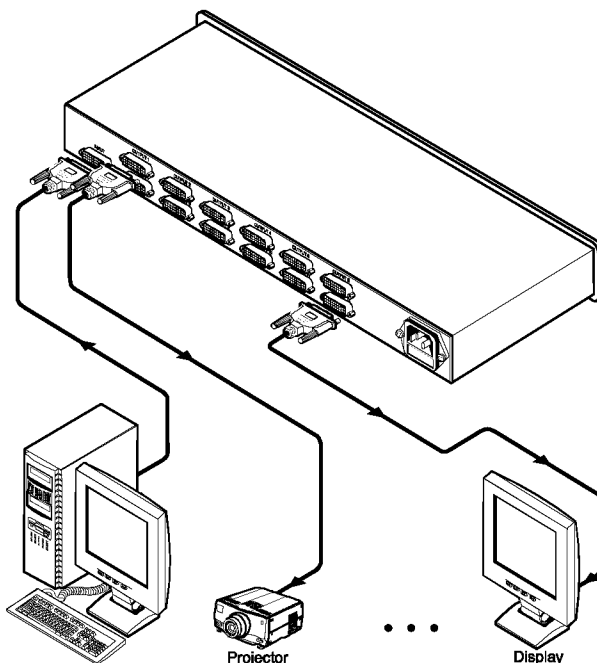

Figure 2: Connecting a VM-12HDCP 1:12 DVI Distributor
To connect the **VM-12HDCP** as illustrated in the example in Figure 2, do the following¹:
3. Connect the power cord to the mains electricity (not shown in Figure 2).